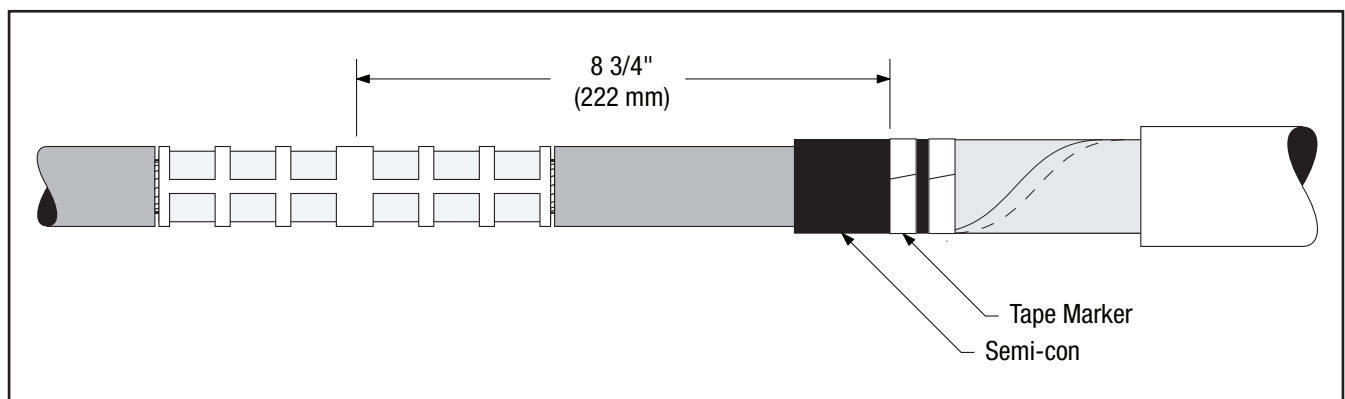

Figure 10
- 4.1 Apply a tape marker to semi-con insulation shield on cable which does not contain splice. Measure 8 3/4" (222 mm) from center of connector (*Figure 10*).